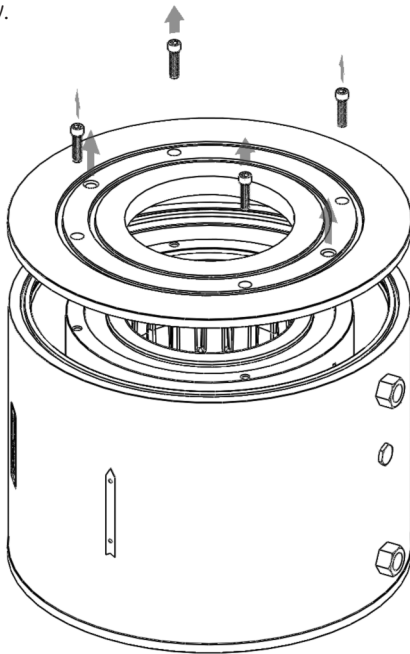

Figure 12 - Remove the outlet cover plate.
- Place the body assembly on the ground or other supporting surface in the vertical position with the inlet side down as shown in Figure 12 below.
- Remove the outlet cover plate as shown in Figure 12 below.